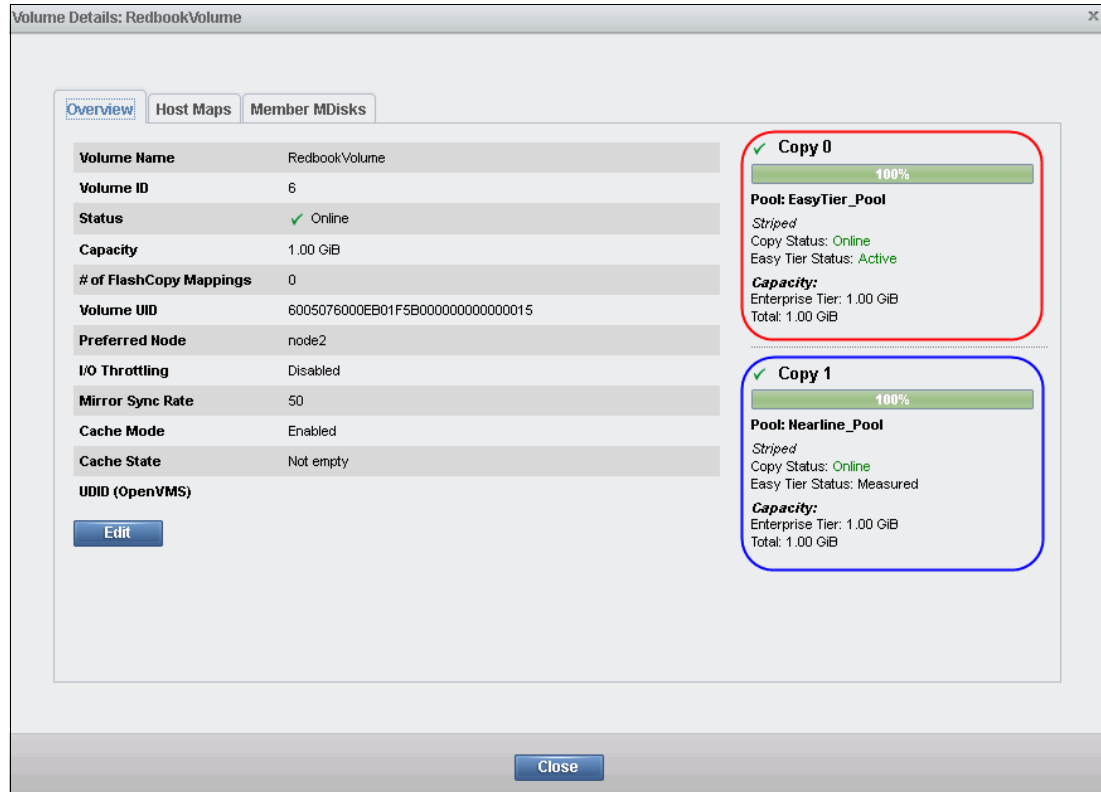

Figure 9-29 Volume properties for Easy Tier
- These changes are also reflected in the GUI, as shown in Figure 9-29. Click **Pools** → **Volumes by Pool**, select Nearline_Pool, and find the volume RedbookVolume.